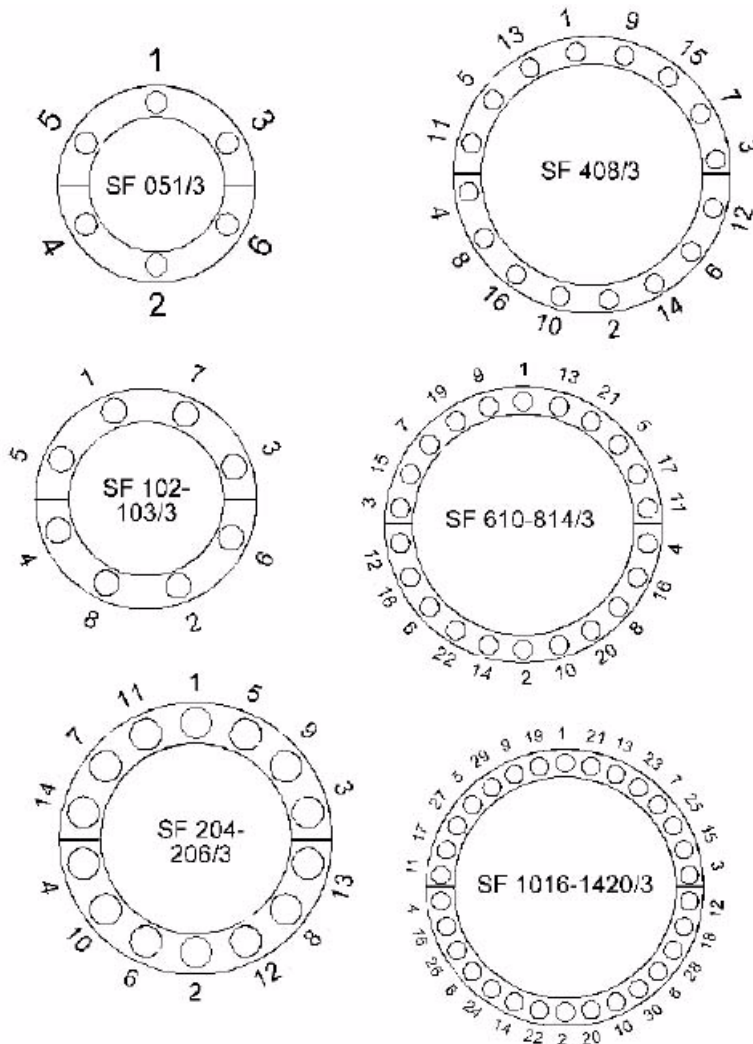

Figure 7-9. Bearing Adjustment Sequence Chart
13. Refer to the Figure 7-9 for your LCSF model, and locate the #1 position eccentric shaft.